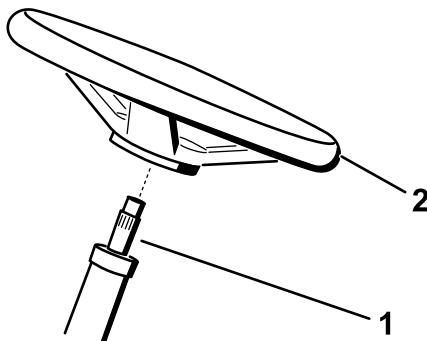

Figure 6
2. Install the wheel to the steering shaft (Figure 6).